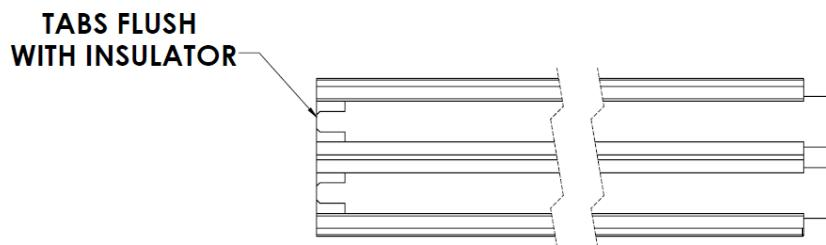

Figure 309: **Male Terminal Tabs Flush with the Plastic Insulator**
- a. Push in the protruding male terminal tabs on the TransStrip so they're flush with the plastic insulator (Figure 309).